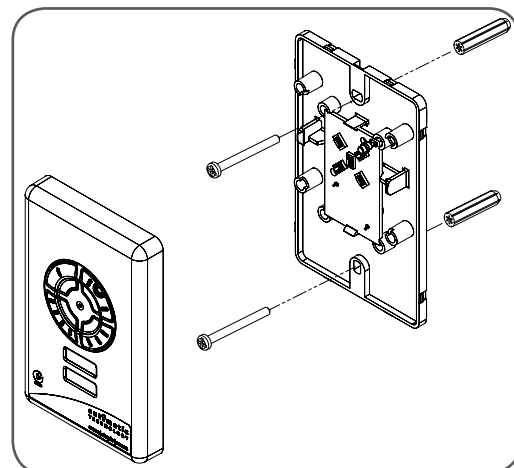

fig 64
- Affix the base plate at a height of 1.5 metres within sight of the door. Make sure that the position of the transmitter is out of reach of children and convenient to the customer (**Fig. 64**).